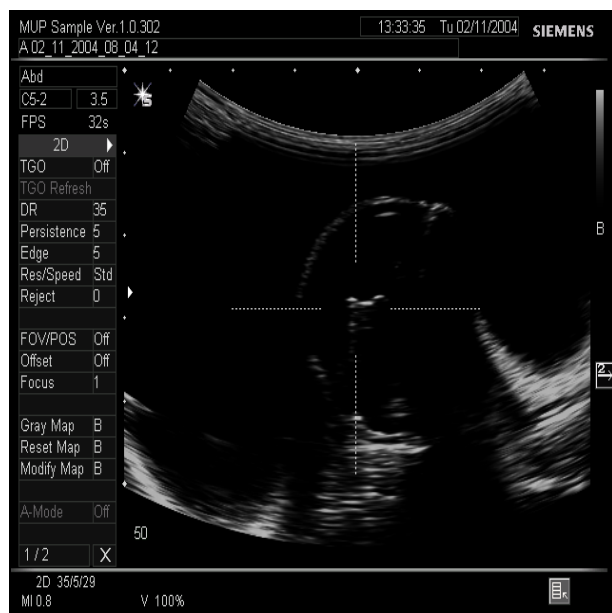

Fig. 7
- With the "Image field/zoom" knob set the value "50" (Fig. 7) - bottom left in the ultrasound image.